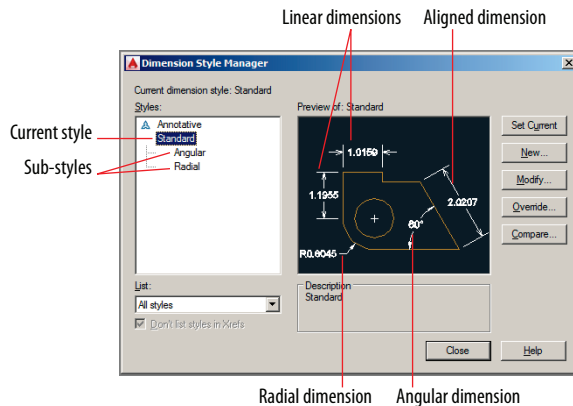

FIGURE 11.9 The preview image shows how different types of dimensions will appear when they are added to the drawing.
- Select Standard in the styles list in the left pane of the Dimension Style Manager. The preview image now shows the cumulative effect of the style and its sub-styles: open arrowheads for linear and aligned dimensions and closed filled arrowheads for angular and radial dimensions (see Figure 11.9). Click Close.